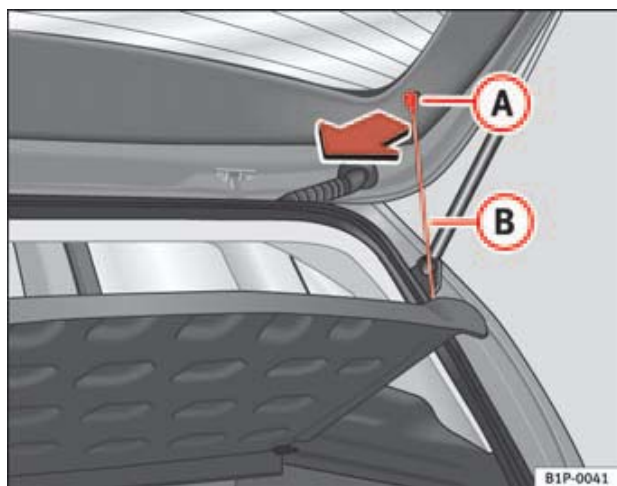

Fig. 105 Luggage compartment cover
- Disengage the loops ⇒ fig. 105 (B) from the retaining pins (A).